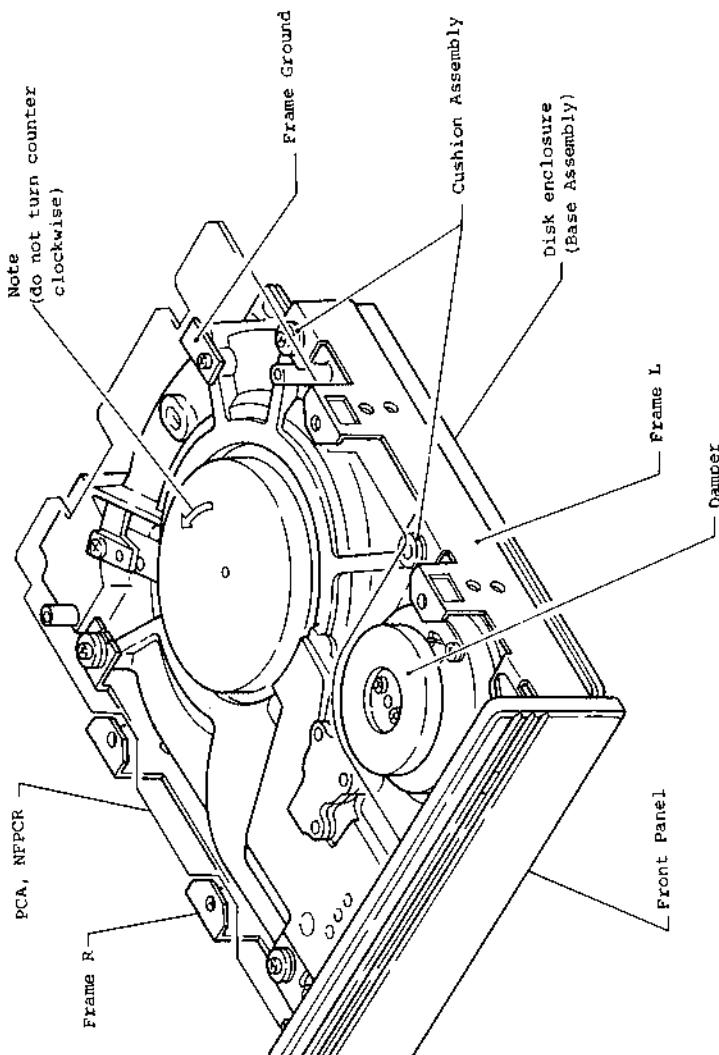

Figure 5-1 Drive Parts
The signal ground and BASE frame ground of this drive are connected. The fasten tab (AMP P/N61761-2 or equivalent) is shown in Figure 5-1, this is the drive ground and should be connected to the host system's DC ground.
Field maintenance is limited to replacement of the PCA, front panel, fram L, fram R, cushions, and disk enclosure. Figure 5-1 shows these parts.
- (1) Turn off the power when replacing parts.
- (2) Do not turn the spindle motor counter clockwise (see Figure 5-1) when replacing parts.
- (3) Do not turn the damper when replacing parts.